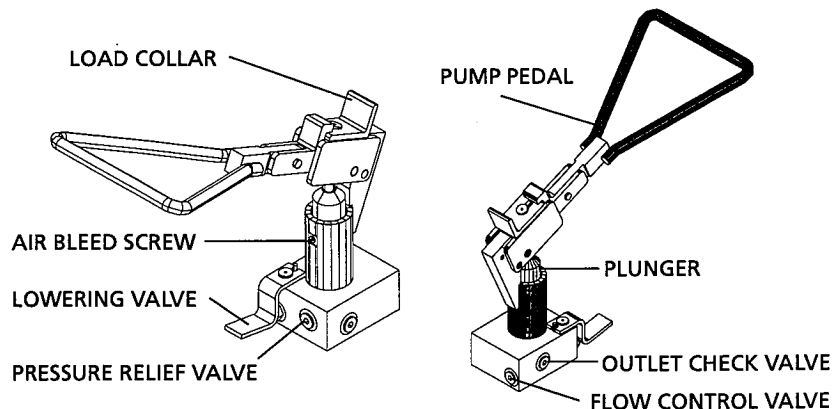

Figure 3 - Foot Pump Operation
Foot Pump Operation (CART-2000 only) Figure 3
2. Locate the "air bleed screw" (see figure 3) and loosen approximately 1/2 turn counterclockwise. As soon as you have loosened the screw, slowly depress the foot pedal. This will force the air out of the pump chamber. Before you let the pump